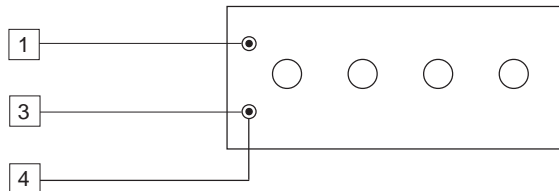

Fig. 5.6
- a) Connect a resistor box as shown in Fig. 5.6.
- a) Set the resistance box to 500.00  $\Omega$  (see Fig. 5.6).
- a) The display will show "25000  $\Omega$ "  $\pm 10$  counts otherwise set the resistance box to 500.00  $\Omega$  (see Fig. 5.6)